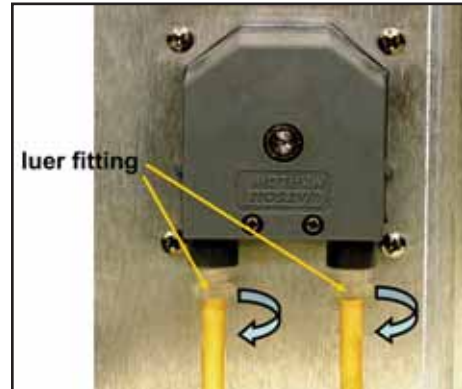

FIGURE 12-5.
3. Luer fittings connect the reagent tubing to the pump. Disconnect the tubing by turning the fitting in the direction of the arrows shown in Figure 12-5.
3. Luer fittings connect the sample tubing to the pump. Disconnect the tubing by turning the fitting in the direction of the arrows shown in Figure 12-5.
2. The reagent and sample tubing is connected to the pump tubing with luer fittings. See Figure 12-5. Disconnect the fittings from the pump by turning the fitting in the direction of the arrow.